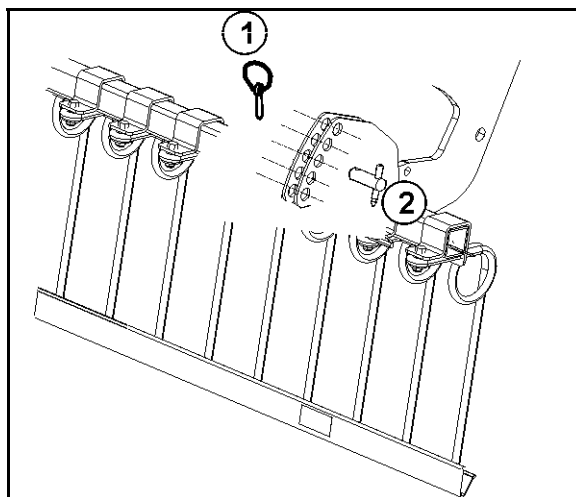

Fig. 30
2. Release the clip pin (Fig. 30/1).
3. Secure the adjusting pins (Fig. 30/2) in the desired position.